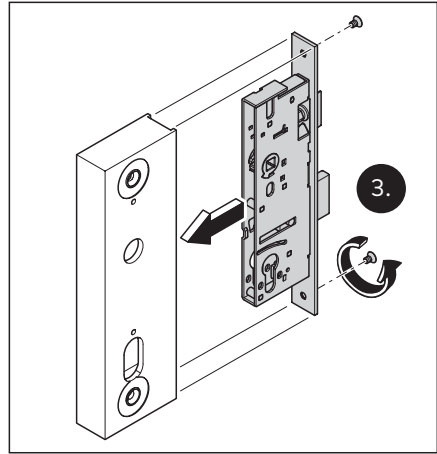

Fig. 30 Slide the lock insert into the mortise and fix in place
3. Slide the lock insert into the mortise and fix in place (Fig. 30).